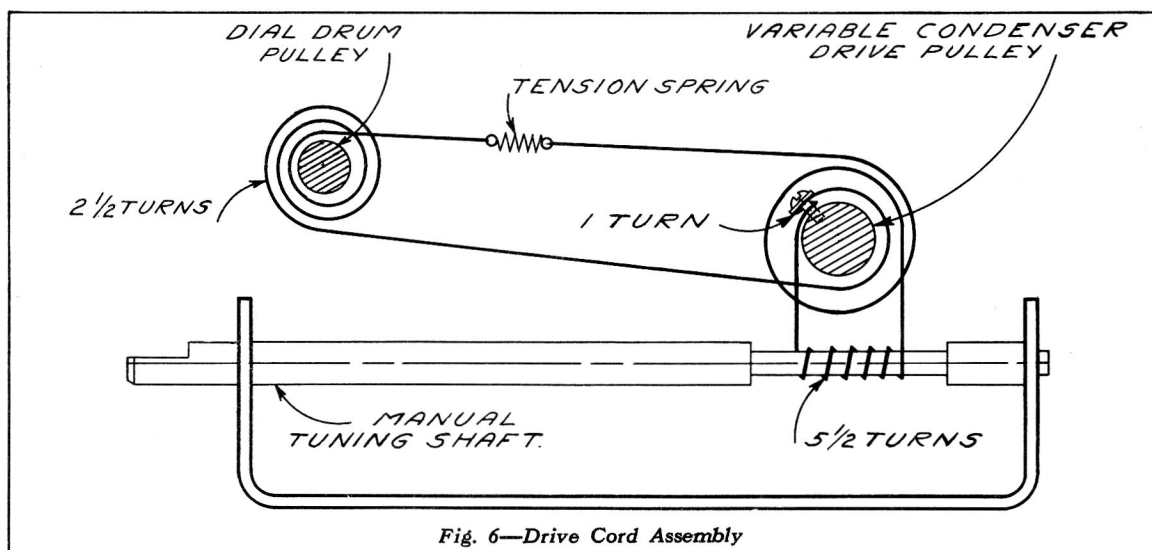

Fig. 6—Drive Cord Assembly
**Manual Tuning Dial.**—A manual tuning knob is provided so that additional stations may be tuned in as desired. The manual tuning shaft is connected thru a cord drive to a pulley on the condenser shaft. This same cord drives the dial drum by passing over a pulley on the drum shaft. Figure 6 shows the complete cord drive assembly and the correct number of turns which the cord should be wrapped around the drive shaft and dial drum pulley. Stops are provided on the dial drum so that dial scale adjustment is made by tuning the set to the extreme ends of the band.